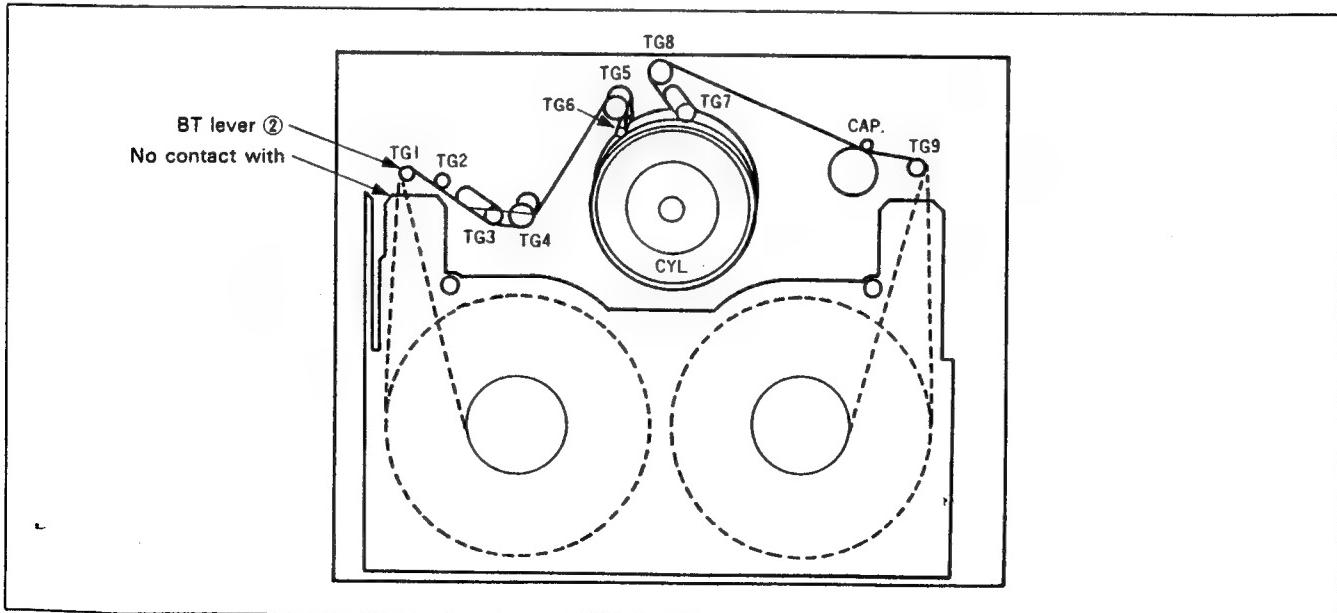

Fig. 2-33.
- 1) Running the leading tape (P6-120), verify that there is no contact between the tape and the cassette half (See Fig. 2-33).
(4) Reinstallation procedure